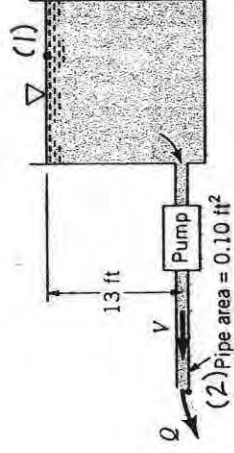

FIGURE P5.84
5.84 Water is pumped from the large tank shown in Fig. P5.84. The head loss is known to be equal to  $4V^2/2g$  and the pump head is  $h_p = 20 - 4Q^2$ , where  $h_p$  is in ft when  $Q$  is in  $\text{ft}^3/\text{s}$ . Determine the flowrate.